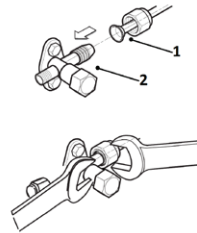

fig. 19 -
- Match the ends of the previously flared pipe (part.1 "fig. 19 -") with those of the connections on the indoor units or on the cocks of the outdoor units (part.2 "fig. 19 -").